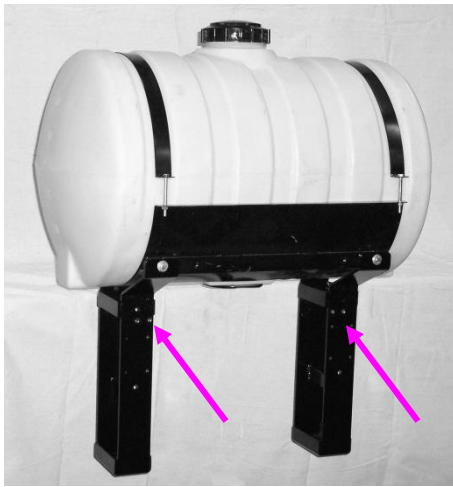

Figure 1
6. Locate the two mounting holes as shown in Figure 1.